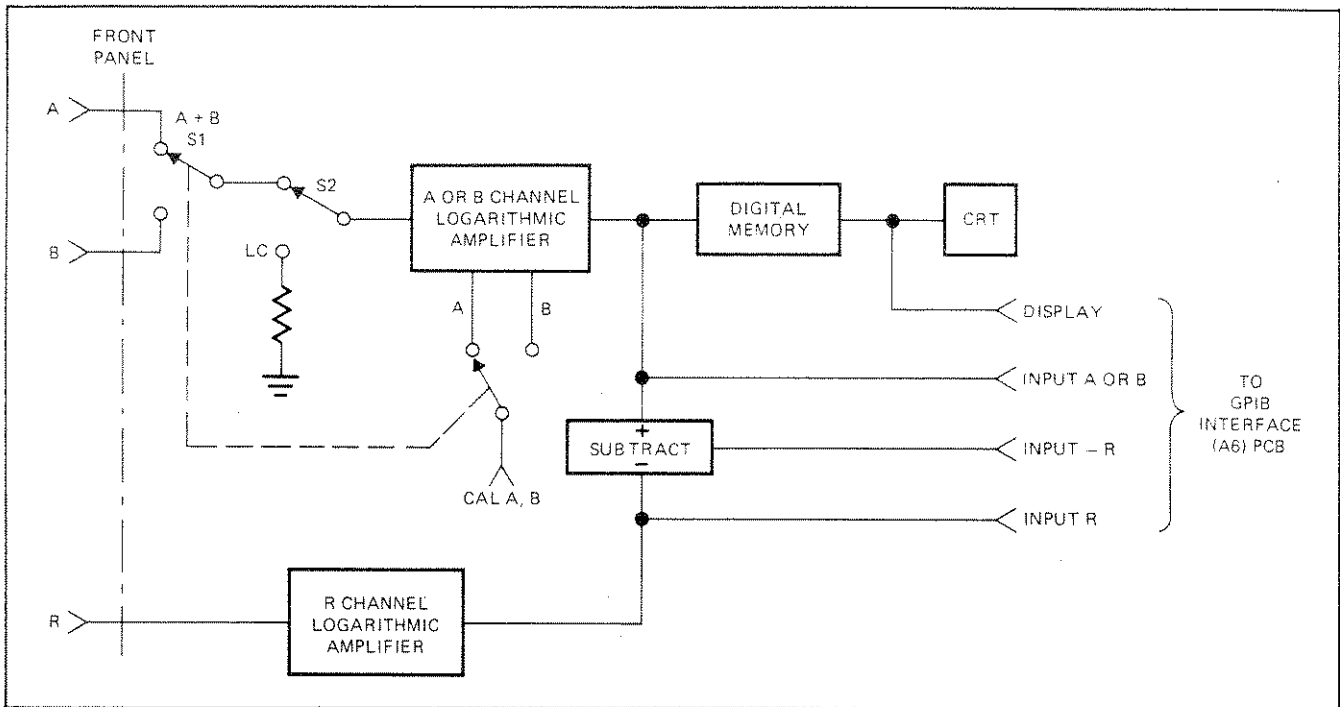

Figure 3-16. Simplified Block Diagram Showing GPIB Interconnection
Interconnection to the GPIB is shown in Figure 3-16. Except for the output connection labeled DISPLAY (used during AD, BD modes only -- see subparagraph a below), the GPIB Interface Circuit Board is connected to the outputs of the channel-amplifiers and the subtract circuit. With connection made at these points, except for POWER, none of the Model 560A front panel controls (MEMORY, dB PER DIVISION, DISPLAY MODE, etc.) have any effect on bus opera-
1. Input commands AI, BI, and RI provide for collection of input data from A Channel, B Channel, and R Channel, respectively. These codes command the 560A to (1) collect analog data from the respective A, B, or R Channel log amplifier, (2) convert the analog data collected into a 7-bit ASCII format, and (3) hold the ASCII binary data until addressed to talk. To see how this multilevel task is accomplished, refer to Figure 3-16 while reading the following description.
2. The input-minus-reference commands, AR and BR, provide for collection of A-R and B-R data, respectively. Circuit operations are similar to those described for the input commands. The main difference between operation in these modes and operation in the input modes is the point from which the circuit output is taken. As shown in Figure 3-16, the circuit output is taken from the Subtract circuit; this circuit contains the difference signal when the selected A or B Channel output signal is subtracted by the R Channel output signal.
thermal compensation for the A, B Channel log amplifier with no signal present and with the amplifier input grounded. To see the circuit operation, refer to Figure 3-16. When the LC command is received, switch S2 momentarily grounds the A or B Channel log amplifier input; the CAL A, B signal causes thermal compensation to be affected.
2. External calibrate command EC provides thermal compensation for the A, B Channel log amplifier when the amplifier input is connected to its microwave input device (RF detector or SWR Autotester). This command provides better thermal compensation than LC does; however, sweep generator RF must be off (<-60 dBm) for this command to be effective. Circuit operation for EC is the same as described for LC, except that switch S2 is not affected and remains connected, as shown in Figure 3-16.
3. Channel select commands CA and CB provide channel-switching only. In the absence of a data command, these two commands select the channel to which the calibrate signal will be applied. As shown in Figure 3-16, channel input switch S1 is "ganged" with the CAL A, B switch. When a CA or CB command is received, it causes these two switches to switch to their A or B positions, respectively. The CAL A, B switch is used to apply the calibrate signal to the appropriate amplifier; S1 is used to connect the appropriate channel connector to the amplifier unit.